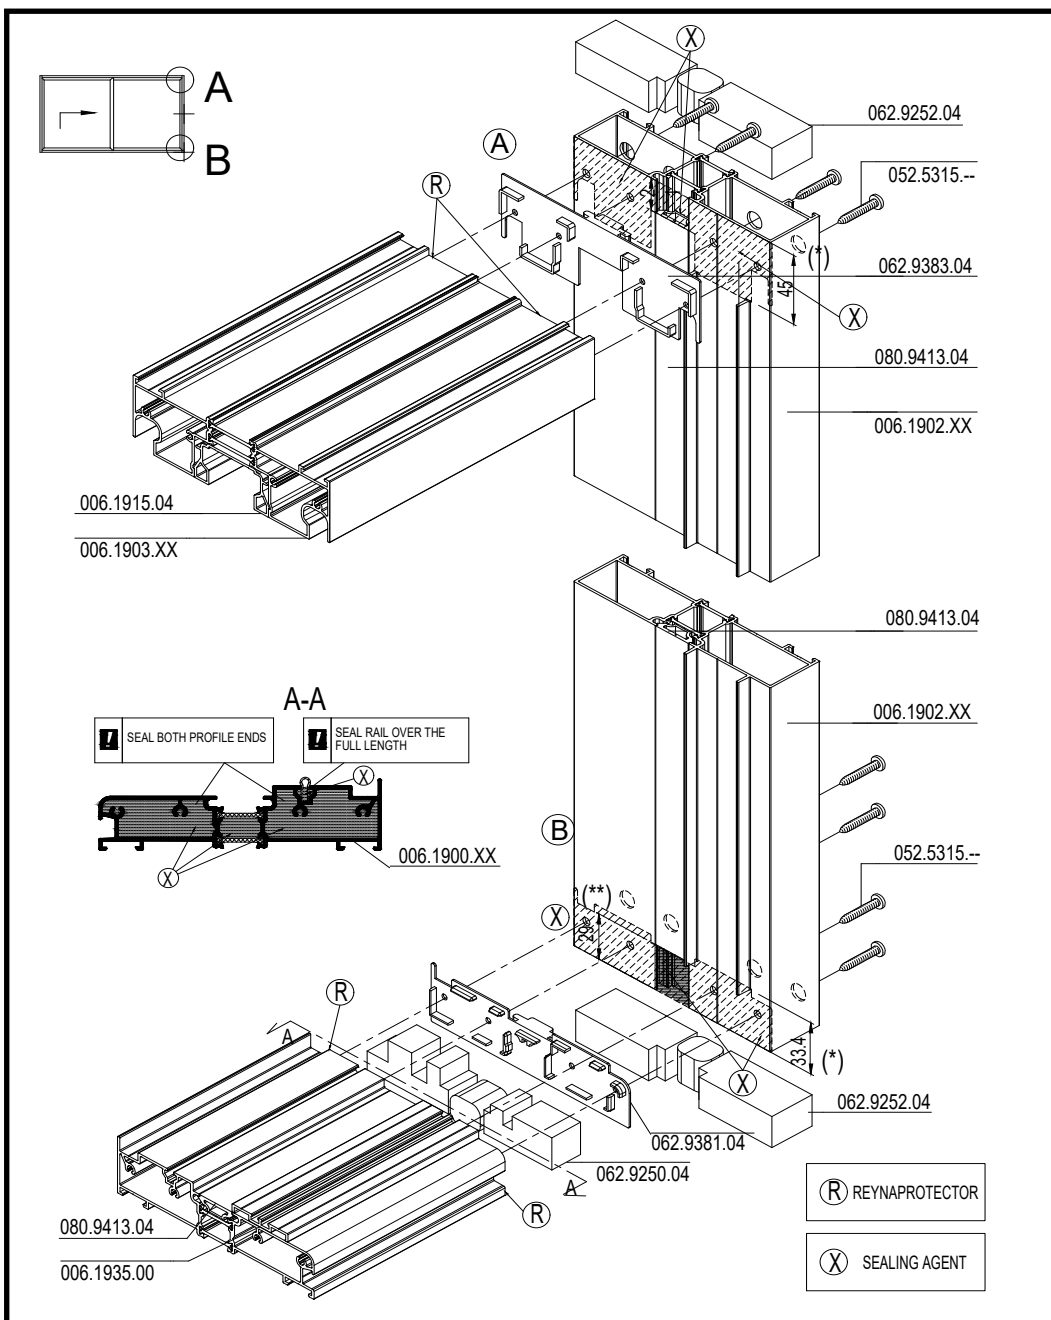

Fig. 5
- Then check that the seal between the track and the side jambs is not damaged. It is a good idea to reseal this joint with silicone, see Fig 5 for example.